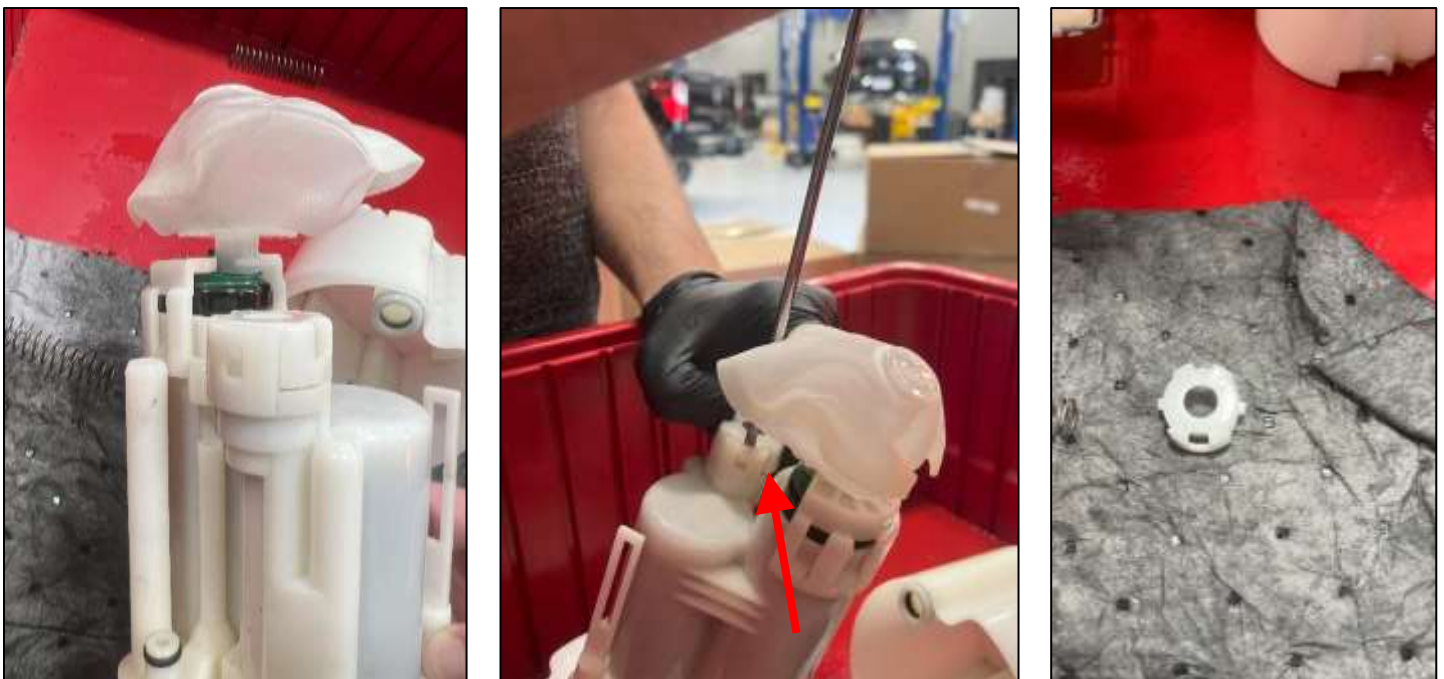

Figure 9
21. Using a flat head screwdriver remove the retainer securing the OE Fuel Pressure Regulator. *Figure 9.*